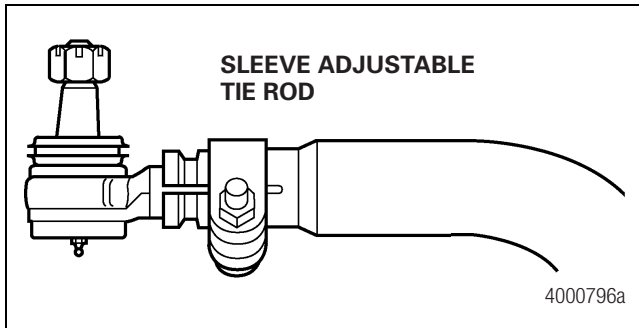

Figure 6.30
9. If toe-in adjustment is necessary, use the following procedure. Figure 6.30.